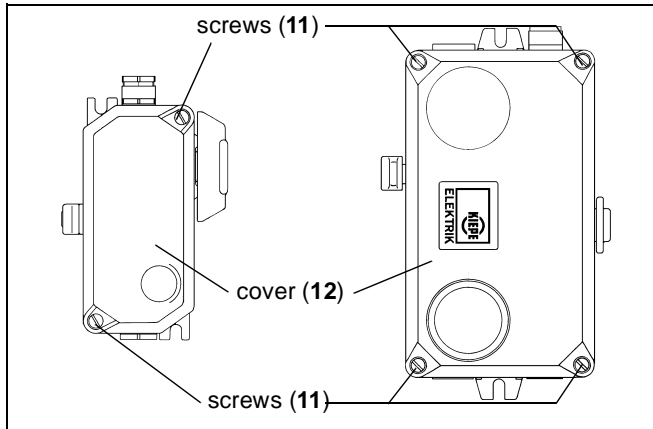

Fig. 5-7: Mounting cover
3. Tighten the nut of the cable fitting (17).
4. Replace the cover (12) and tighten the fastening screws (11) (s. fig. 5-7).